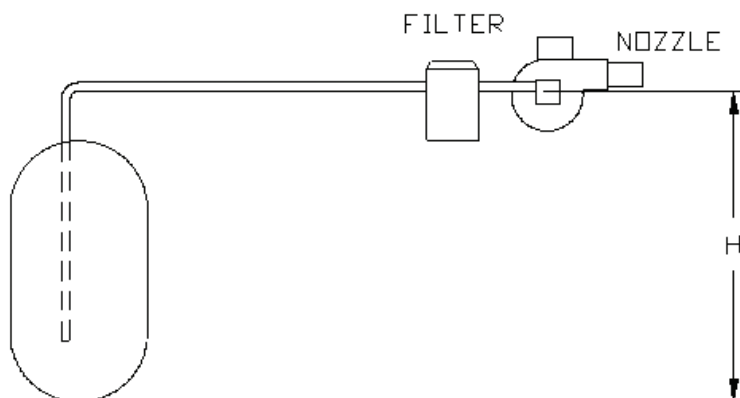

FIGURE 10.2: ONE-PIPE LIFT SYSTEM
- b) ONE-PIPE LIFT SYSTEM (not recommended) - Used when a fuel oil storage tank is located below an oil burner fuel pump. See Figure 10.2. The vertical distance from bottom of the tank to center line of the pump (Dimension 'H') must not exceed that shown in the pump manufacturer's instructions. Although all oil piping systems must be airtight, one-pipe lift systems are particularly susceptible to nuisance lockout problems if the suction line is not completely airtight. A two-pipe lift system is therefore recommended over a one-pipe lift system.